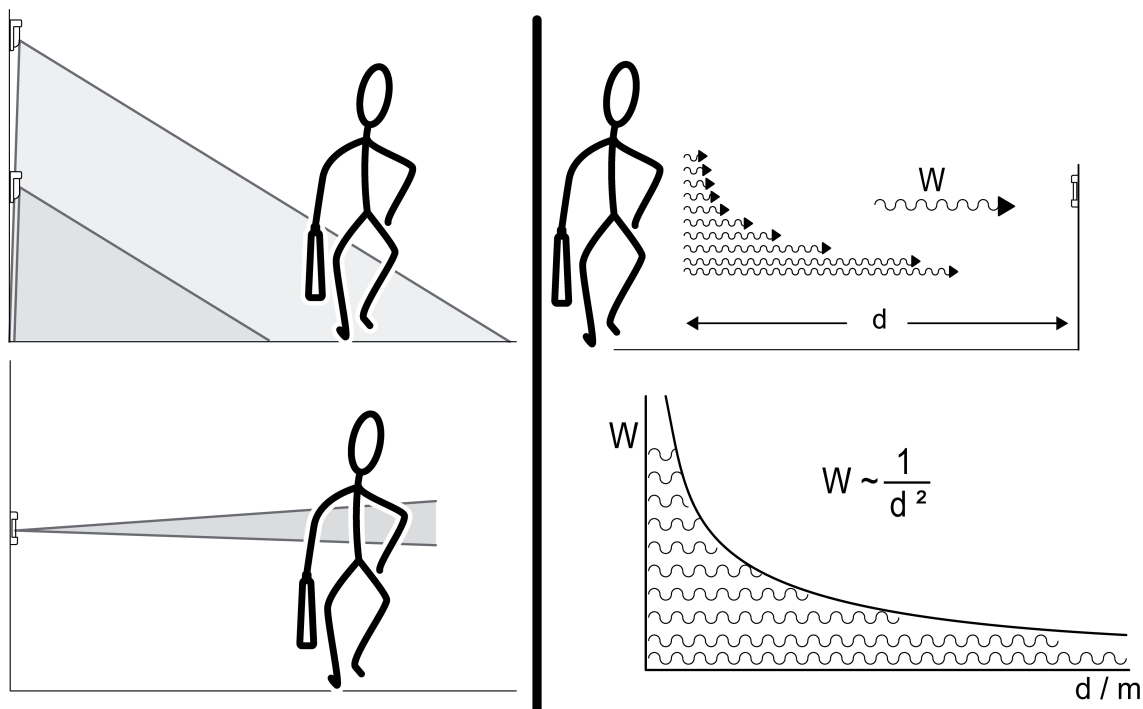

Figure 4: Detection of heat sources – detection field geometry and distance (photometric distance law)
A motion detector that faces downwards at an angle is different from one that looks straight ahead into infinity (figure 4).
- Distance between heat source and motion detector: the further away the heat source is from the sensor, the weaker the evaluable signal on the sensor (figure 4).